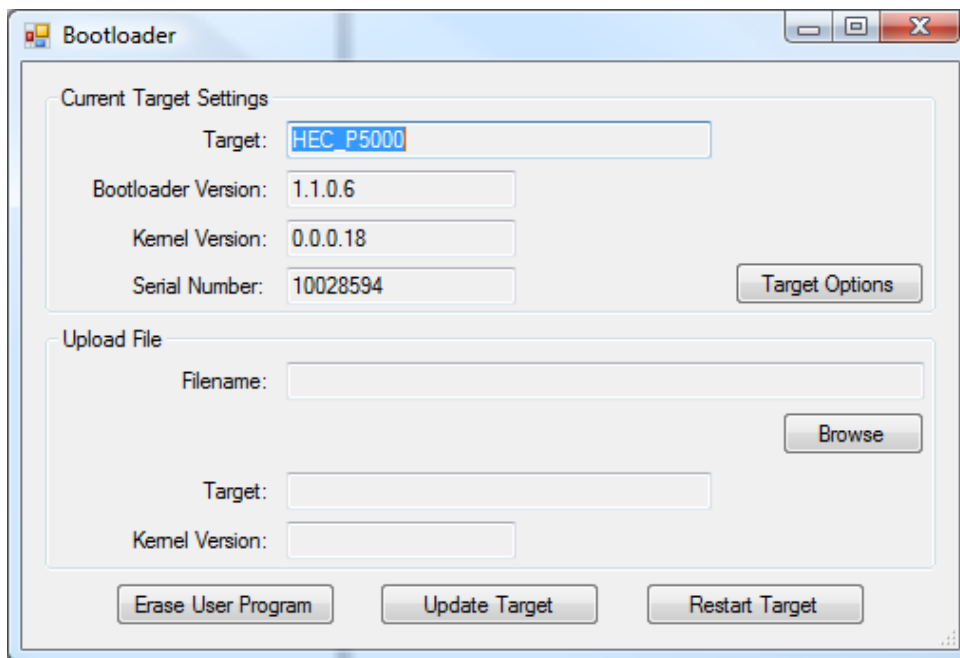

Figure 4-5
6. EZ LADDER will connect to the target and the Bootloader dialog will open showing the current version of the target's kernel (if any). It will also display the target's bootloader version. See Figure 4-5.